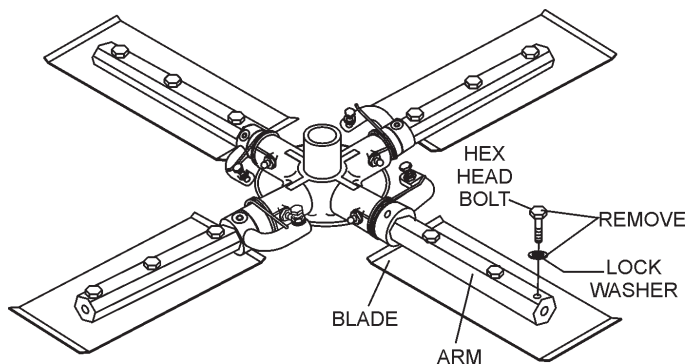

Figure 45. Trowel Blades
- Remove the trowel blades from the trowel arm by removing the three hex head bolts (Figure 45) from the trowel arm. Set blades aside.